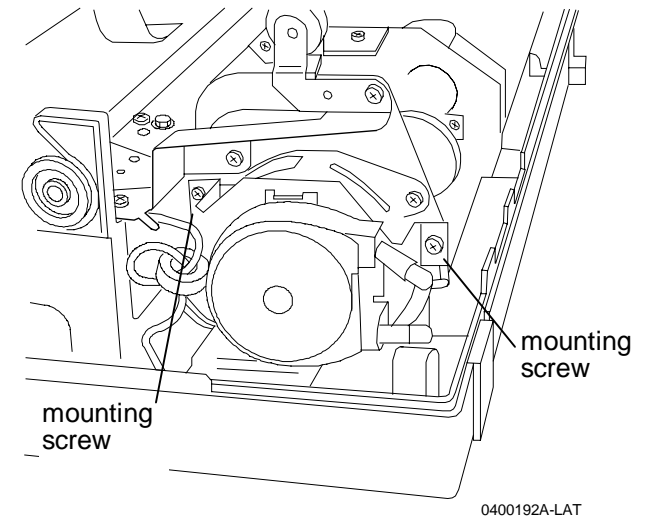

Figure 2.
- c. Remove two Pump mounting screws. (Figure 2).